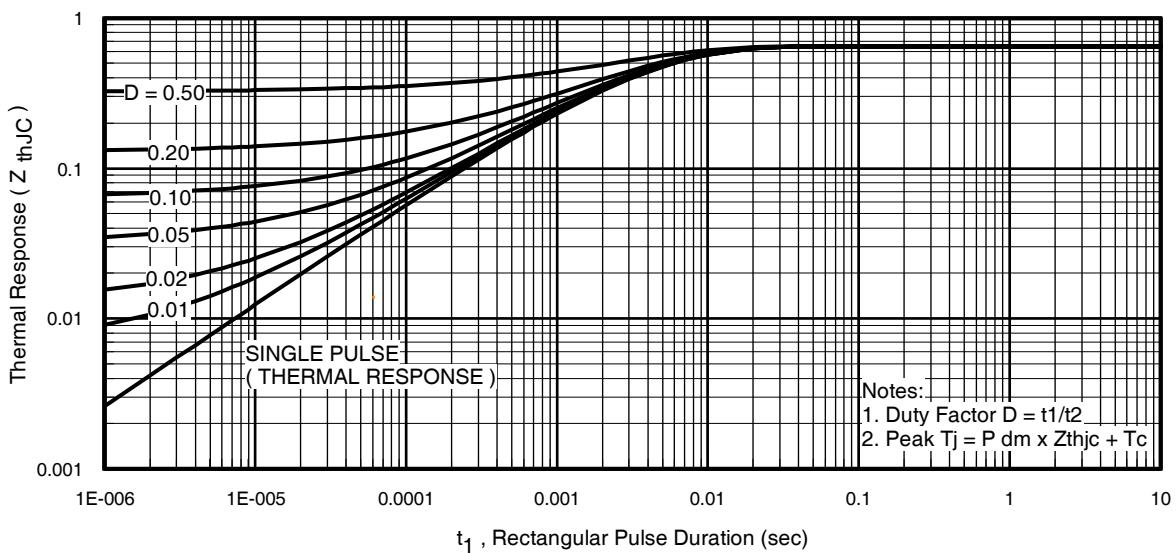
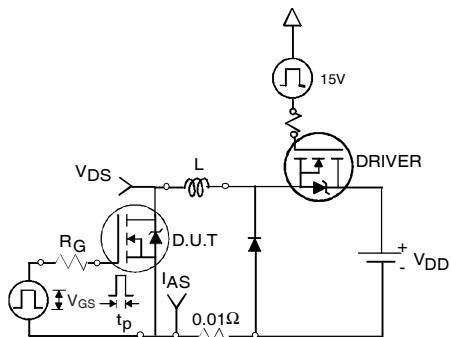

Fig 11. Maximum Effective Transient Thermal Impedance, Junction-to-Case
Fig 12a. Unclamped Inductive Test Circuit
- ① Repetitive rating; pulse width limited by max. junction temperature. (See fig. 11).
- ② Limited by T_{Jmax} , starting $T_J = 25^\circ\text{C}$, $L = 0.10\text{mH}$ $R_G = 25\Omega$, $I_{\text{AS}} = 75\text{A}$, $V_{\text{GS}} = 10\text{V}$. Part not recommended for use above this value.
- ③ Pulse width $\leq 1.0\text{ms}$; duty cycle $\leq 2\%$.
- ④ $C_{\text{oss eff.}}$ is a fixed capacitance that gives the same charging time as C_{oss} while V_{DS} is rising from 0 to 80% V_{DSS} .
- ⑤ Limited by T_{Jmax} , see Fig.12a, 12b, 15, 16 for typical repetitive avalanche performance.
- ⑥ This value determined from sample failure population, starting $T_J = 25^\circ\text{C}$, $L = 0.10\text{mH}$, $R_G = 25\Omega$, $I_{\text{AS}} = 75\text{A}$, $V_{\text{GS}} = 10\text{V}$.
- ⑦ This is applied to D²Pak, when mounted on 1" square PCB (FR-4 or G-10 Material). For recommended footprint and soldering techniques refer to application note #AN-994.
3. Equation below based on circuit and waveforms shown in Figures 12a, 12b.
- $Z_{thJC}(D, t_{av})$ = Transient thermal resistance, see figure 11)